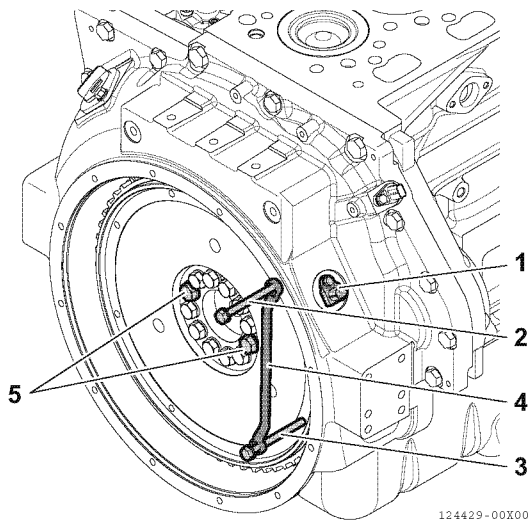

Fig.03-1
1. When removing the flywheel, remove the crank speed sensor first to prevent the sensor from being damaged by the ring gear contacting the crank speed sensor (1, Fig.03-1).
2. When removing the flywheel mounting bolts, in order to prevent the crankshaft from turning, attach a stopper (4, Fig.03-1) by using the thread hole (2, Fig.03-1) on the flywheel housing side and the thread hole (2, Fig.03-1) on the flywheel side.
3. Out of the flywheel bolts, remove the 2 bolts (5, Fig.03-1) that are in the horizontal position in the center part.